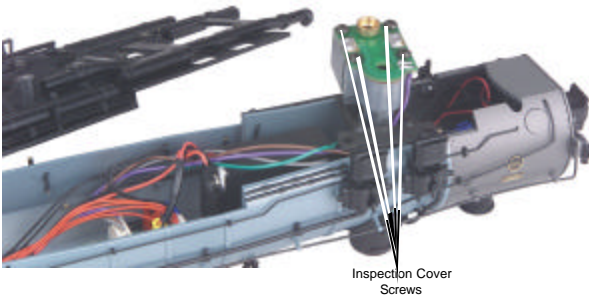

Figure 16
4. Once the unit is freed, remove the inspection cover (Fig. 16). Inspect the wick; if it is darkly discolored and hard, it should be replaced.